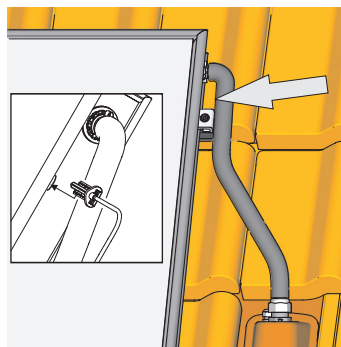

Fig. 3-47 Work step 2
2. Push solar panel temperature sensor up to the stop in the flat solar panel (Fig 3-47). The sensor must be clamped to the absorber plate.